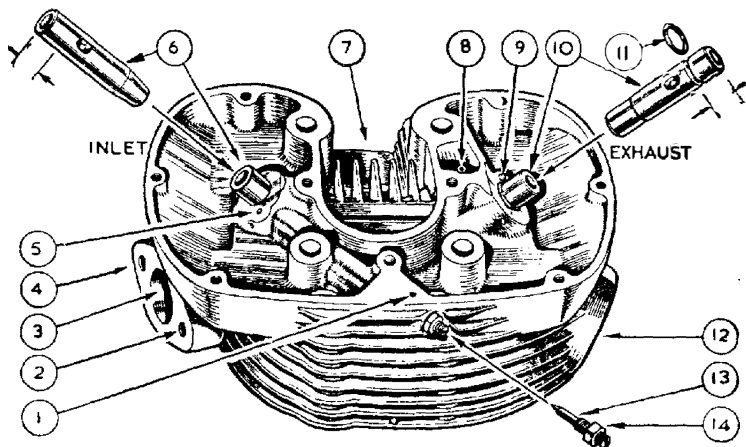

FIG 4 Cylinder head
**Replacing the valves.** A valve spring compressor is required to compress the springs and a special tool which is inexpensive, can be obtained from dealers. Before fitting the valve springs, position correctly the valve spring seat. The raised portion on the underside is located with the depression (5) in cylinder head. (Fig. 4.) The inlet valve is the larger of the two valves and it is vitally important to locate correctly the two split collets into the grooves on each valve stem.